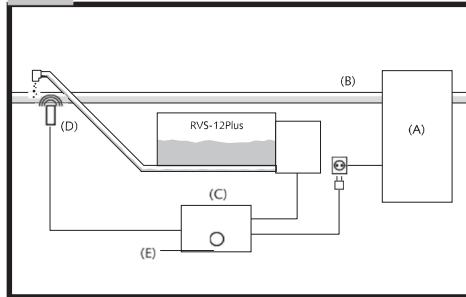
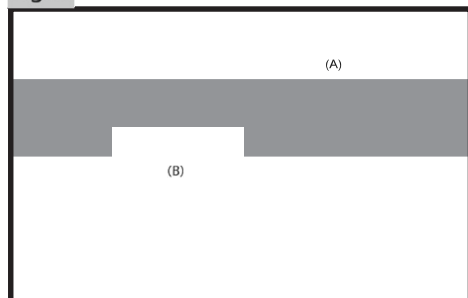

Fig. 3
Fig. 4
Cut out a piece (Fig. 3 (B)) from the bottom side of the steel tube (Fig. 3 (A)), size appr. 60x60 mm. Take a piece of plastic tube (Fig. 4 (B)) of appr. 150 length. Adjust this in such a manner that it can be put on/ around the dryfeedtube (Fig. 4 (A)) and the opening can be covered completely.
Install the sensor with the bracket (Fig. 4 (D)) on the dryfeedtube, with tie wraps (Fig. 4 (C)), exactly underneath the opening.
- adjusting the distance of the sensor to the dryfeedtube, with the rings around the sensor (Fig. 4 (E)).
- adjusting the sensibility of the sensor, with the screw at the bottom side of the sensor (Fig. 4 (G)).
The indication lamp (Fig. 4 (F)) lights up when the sensor measures something.
Install the sensor with the bracket (Fig. 4 (D)) on the dryfeedtube, with tie wraps (Fig. 4 (C)).